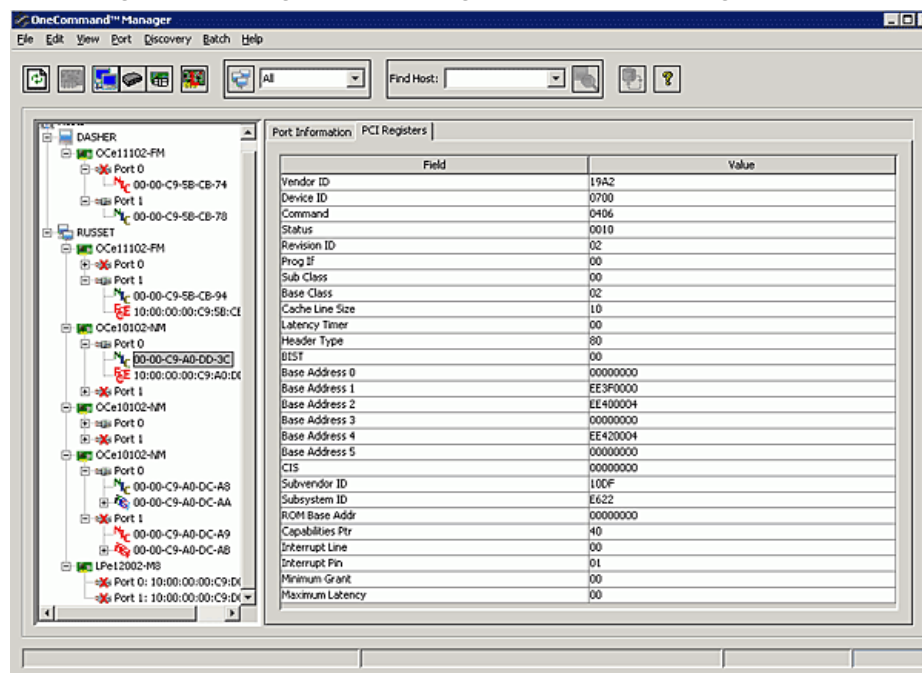

Figure 8-6 NIC PCI Registers Tab
The NIC PCI Registers tab (Figure 8-6 on page 124) displays base PCI registers. See “Viewing the PCI Registers” on page 237 for FC PCI register information.
2. Select the **NIC PCI Registers** tab (Figure 8-6 on page 124).